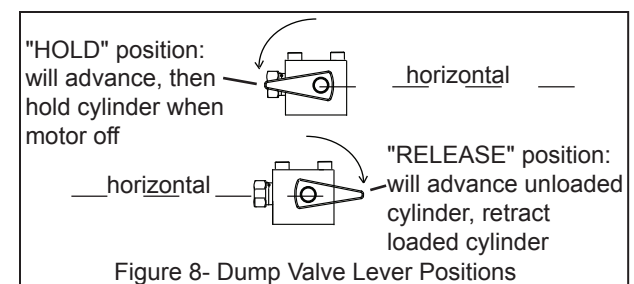

Figure 8- Dump Valve Lever Positions
### PARD4003, PARD4001, PARD4003 (see Fig. 8)
4. See Figure 8 below for details.